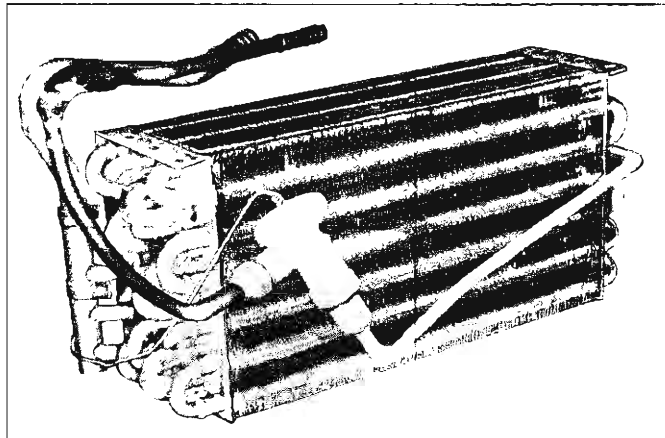

Fig. 20—Evaporator Core Removed
5. Carefully draw the core and expansion valve assembly out of the case (see fig. 20).